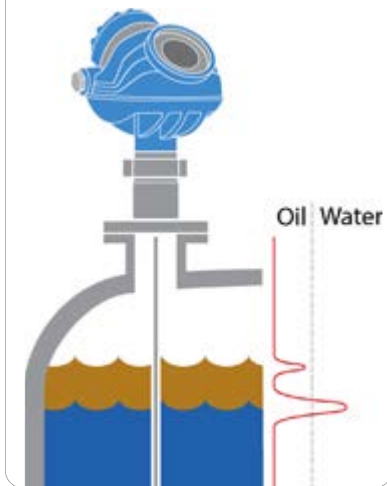

Figure 3. Pulse creates echoes both from the surface and the interface point.
GWR also sends a pulse down a probe but doesn't use a float. The pulse is reflected directly off the surface of the liquids (Figure 3) — the main reflection from the top and a secondary reflection from the interface layer. This works provided the liquid on top has a lower dielectric constant (DK) or relative permittivity than the liquid underneath. GWR suits sensing oil on water